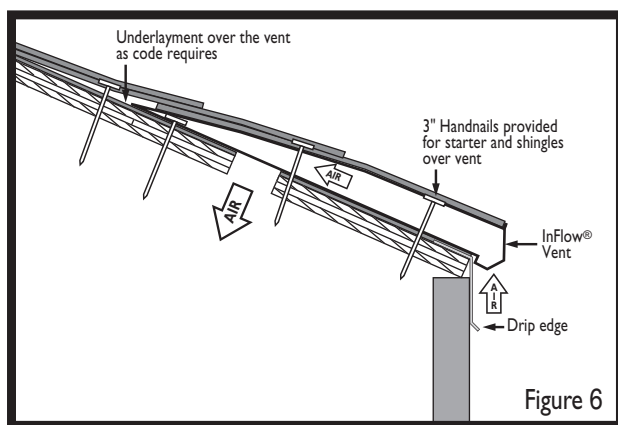

Figure 6
See Figure 6 and 7.
Step 11: Hand nail the starter and roofing shingles on top of the vent using the 3" nails provided. See Figures 6 and 7.